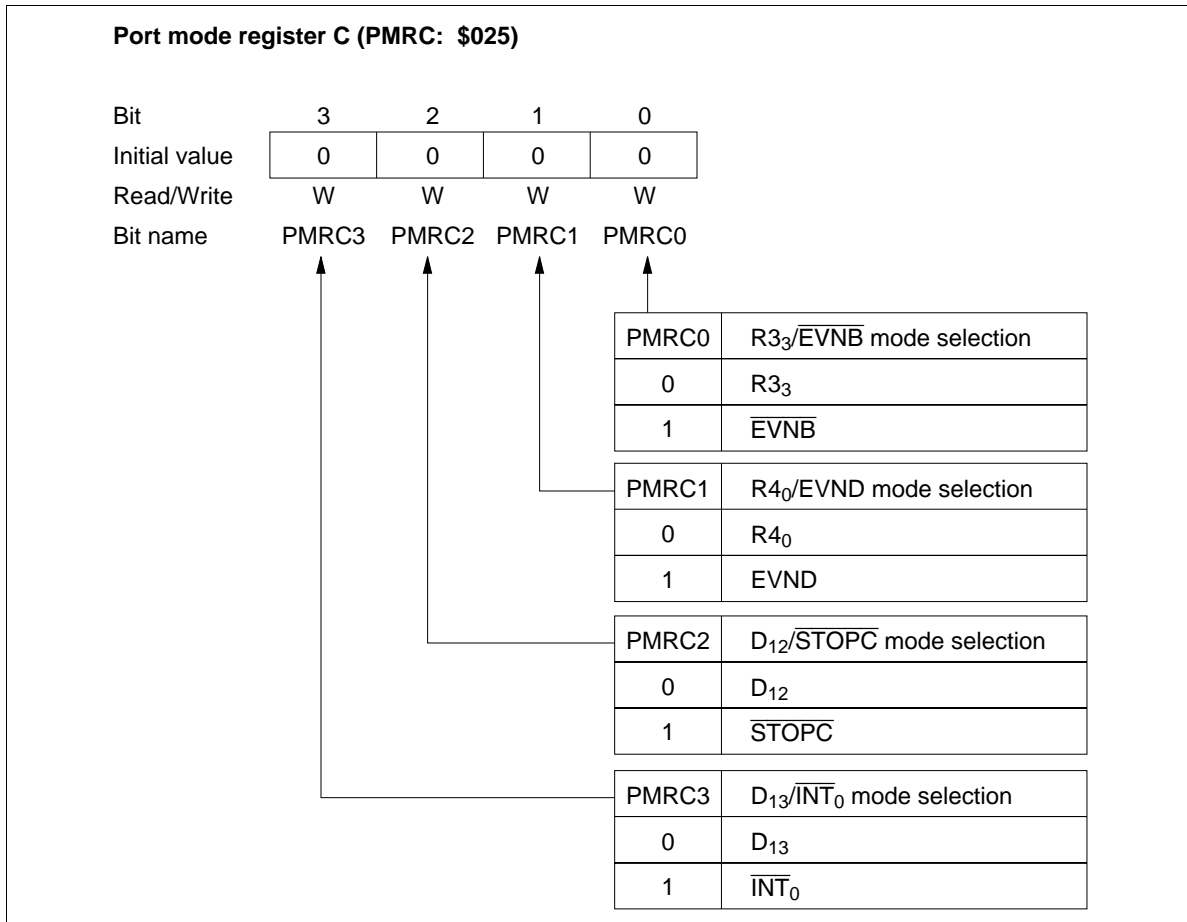

Figure 50 Port Mode Register C (PMRC)
- Port mode register C (PMRC: \$025): Write-only register that selects R3₃/ $\overline{\text{EVNB}}$ pin function as shown in figure 50. It is reset to \$0 by MCU reset.